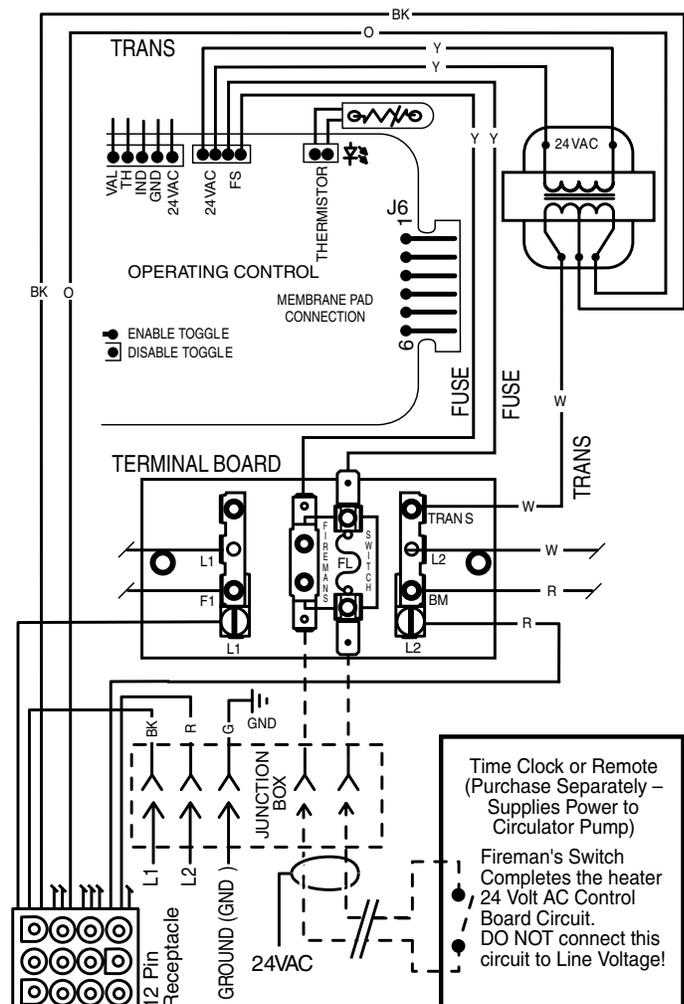

Figure 30.
- Connect wires between the Fireman's Switch terminals on the heater and the relay. Connect wires from the controller or timer to the Fireman's Switch. Controller, timer or relay should be sized to handle 24VAC at 0.5 Amp (because it will be completing the 24VAC control board circuit on the heater as shown in Figure 30). DO NOT apply line voltage to the Fireman's Switch terminals. Use 18 gauge wire with a minimum 3/64" (1.2mm) thick insulation rated for a temperature rise of at least 105°C.